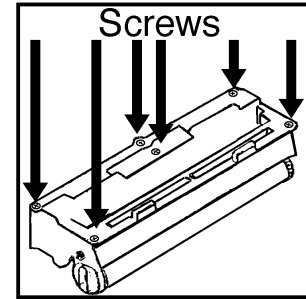

Figure 1
1. Remove drum unit top cover (6 screws) (Fig. 1).